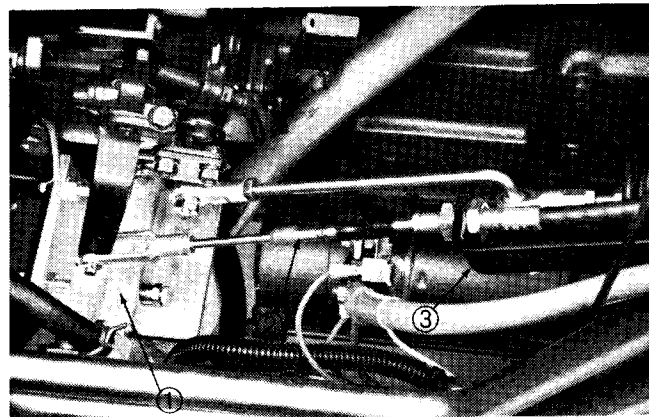

Figure 32
8. Disconnect fuel line from "IN" fitting on fuel filter/water separator (Fig. 32). Disconnect throttle cable from governor lever. Remove two (2) capscrews and keps nuts and remove throttle cable bracket from left rear engine mount. Leave throttle cable attached to bracket. Leave engine run solenoid attached to engine mount.